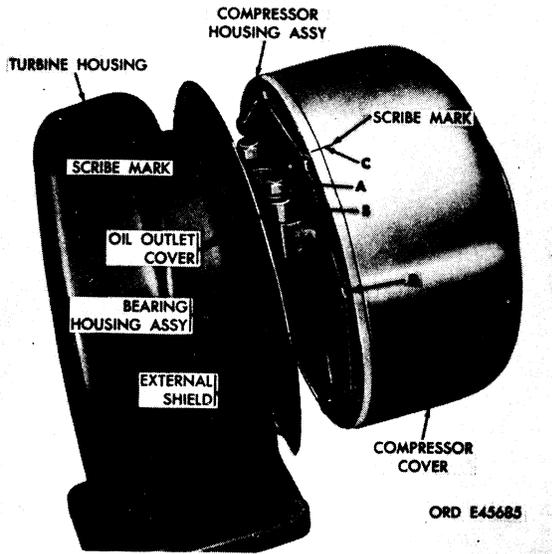

FIGURE 12. REMOVING OR INSTALLING OIL OUTLET COVER AND COMPRESSOR CAP SCREWS - TURBOCHARGER 7748900.
- (1) Remove two screws and lock washers (A) attaching oil inlet adapter (B) to bearing housing assembly.
- (2) Remove oil inlet adapter (B) and adapter gasket. Discard gasket.
**b. Oil Outlet Cover.** Refer to figure 12.
- (1) Remove two hex head cap screws and lock washers (A) attaching the oil outlet cover (B) to the bearing housing assembly.
- (2) Remove oil outlet cover (B) and cover gasket. Discard gasket.